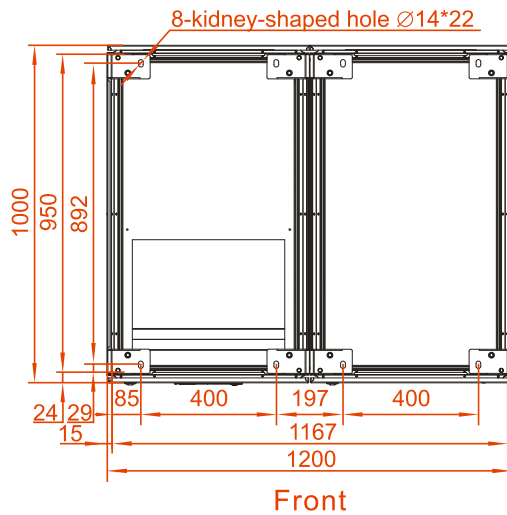
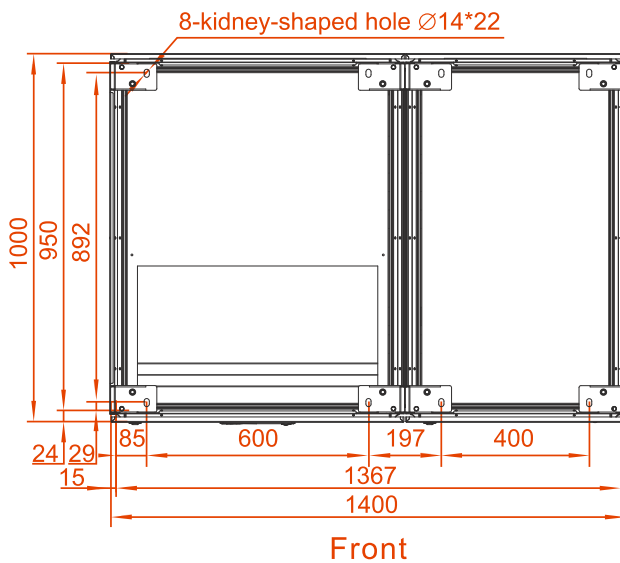

Figure3-10 The installation hole size of pedestal of IST6400, IST6500 and IST6600(unit: mm)
Figure3-11 The installation hole size of pedestal of IST6800(unit: mm)
Step 2 Drill $\phi 14\text{mm}$ holes on the ground by impact drill according to the installation hole size of pedestal (as shown in Figure3-10 , Figure3-11 and Figure3-12).
If the UPS is installed on U-steel, drill four holes(Hole diameter is $\phi 14\text{mm}$) on the U-steel directly according to the Figure3-10 , Figure3-11 and Figure3-12, and then perform **Step 4** directly.